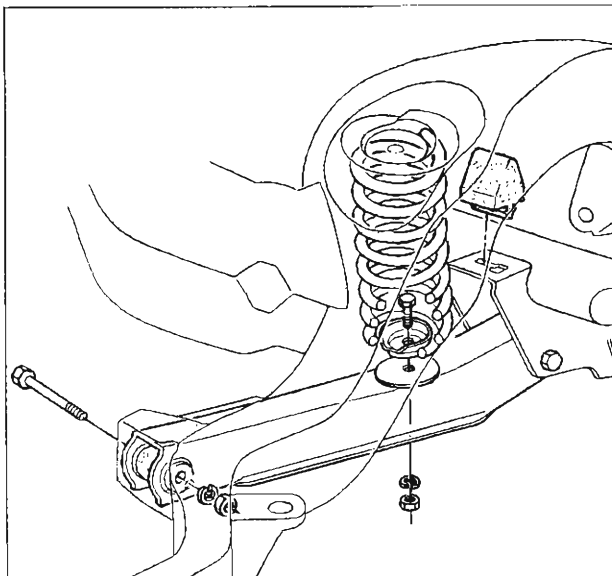

Fig. 6—Coil Spring Installation (Chevrolet)
6. Slide coil spring from the control arm and remove from its seat in the side rail seat (fig. 6).